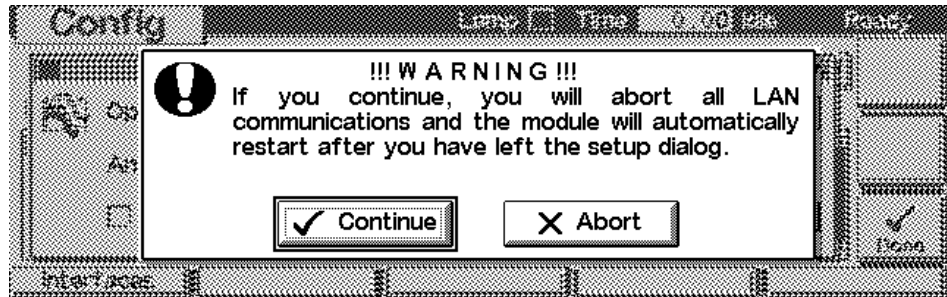

Figure 27 Warning message
- 4 A Warning message shall pop up. Press “Continue” (Figure 27).